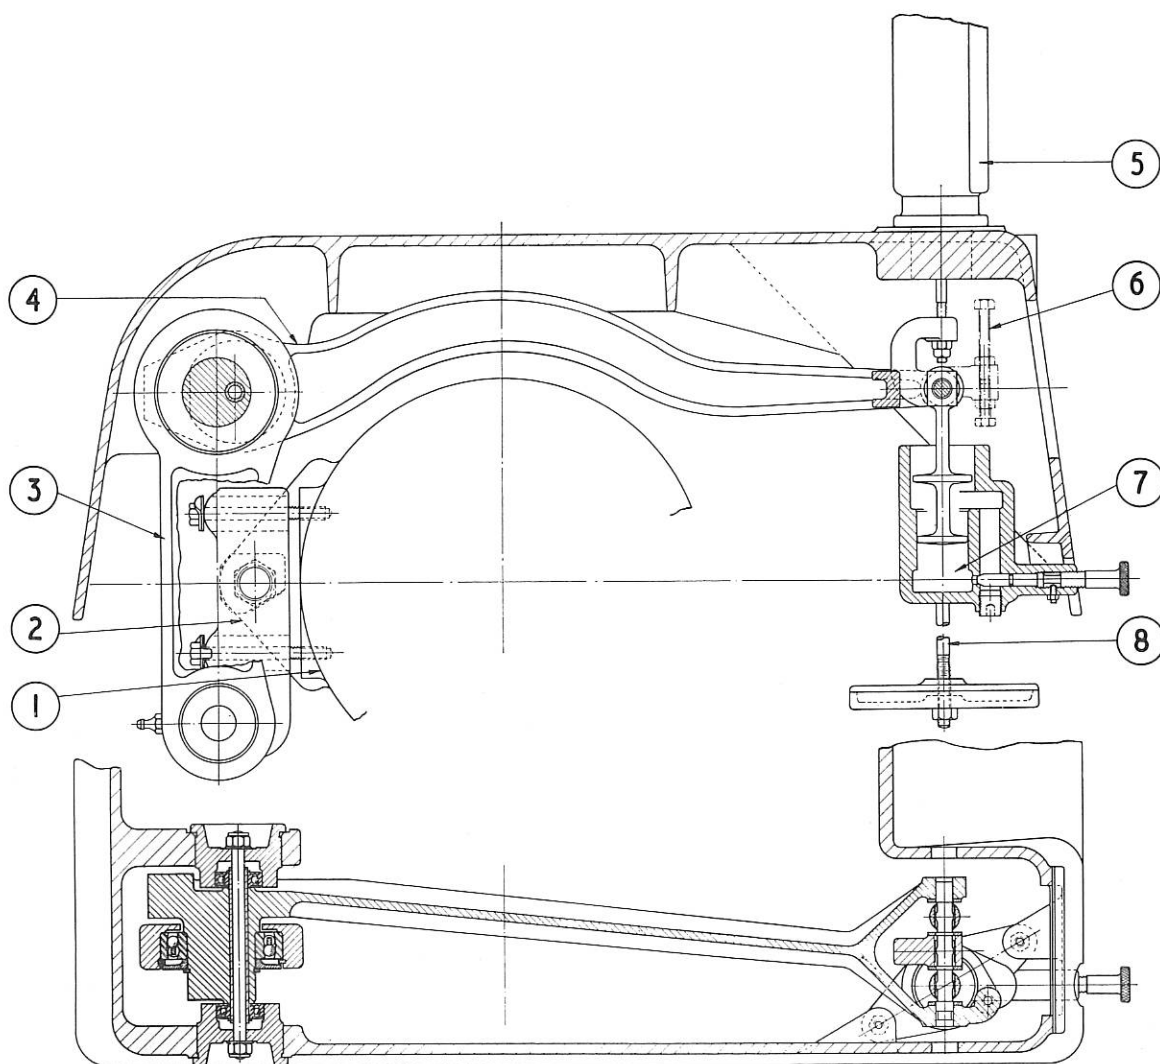

Fig. 5. Arrangement of Weighing Gear,
The extremity of the reducing lever of the weighing gear is fitted with a rigid pin which has three connections—(1) to the spring balance, (2) to the balance weight bolt and (3) to the dashpot—all with self-aligning bushes. The body of the dashpot is mounted rigidly inside the top half of the Dynamometer outer casing underneath the reducing lever. The function of the dashpot is to damp out any inequalities of torque so as to obtain a steady reading on the spring balance. The dashpot should be filled with a light grade of oil (see General Care and Maintenance, Section 21), and it is important to ensure that the dashpot is completely filled and all air ejected from the underside of the piston (see Item 7, Fig. 5).
If it is desired to remove the needle valve, first unscrew the locating peg on the underside and drain the oil. The drain plug is situated at the base of the dashpot body (see Fig. 5).
The arrangement of the torque weighing gear is shown in Fig. 5. The Dynamometer is adjusted and calibrated by Heenan & Frude Ltd. before despatch to ensure accuracy of torque weighing.